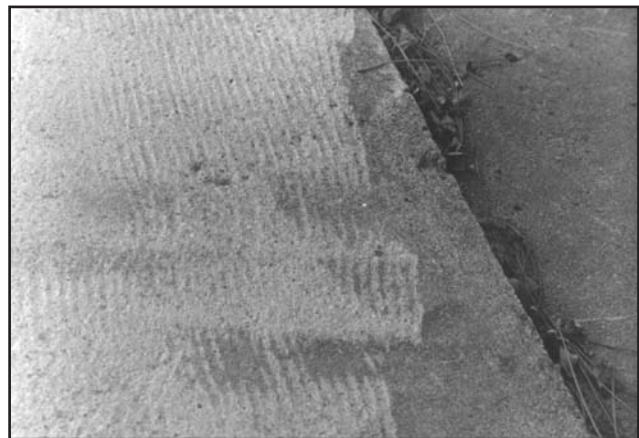

FIGURE 1
- 3) Surface finish and texture. The finest grained surface finish available from the planing process is comparable to a "swept or broomed" like finish. FIGURE 1. If a smooth, flat finish is desired, the planing process must be followed with a grinding or polishing type process. Many job requirements may call for large amounts of material to be removed, but followed with additional specifications requiring a finer surface finish or texture. Many times these jobs dictate the use of an aggressive flail configuration because of productivity and cost considerations. Less aggressive flail configurations can then be utilized for the final finishing sequence. Generally speaking, the more aggressive the flail configuration, the more coarse the resulting finish and texture.